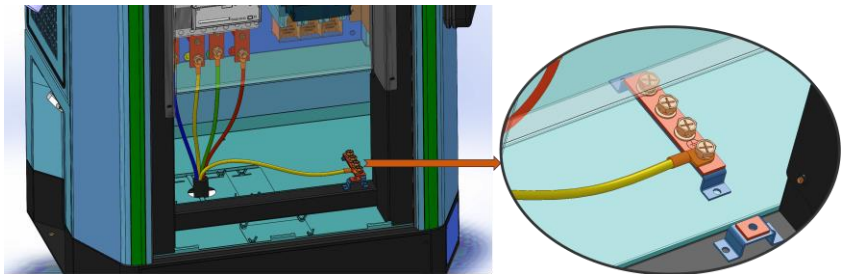

Fig. 5-5 Input cable Wiring
- Connect the input cable well, the protective grounding terminal must be reliably grounded as shown in Fig.5-5, set the charging station surge protector circuit breaker to close, and do not allow the power line to be disconnected or scratched.